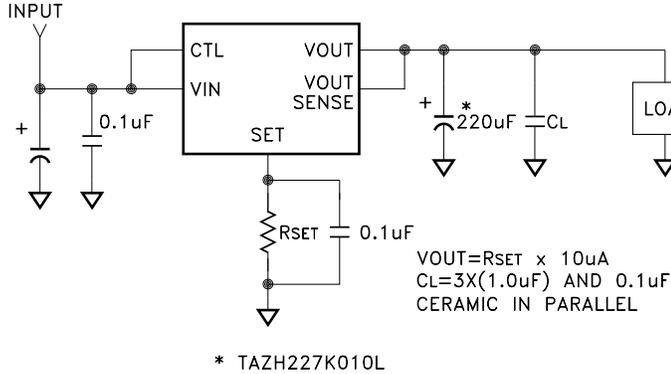

FIGURE 1
- ① Output is decoupled to ground using a 220µF tantalum low ESR capacitor in parallel with 3 pieces of 1.0µF and one 0.1µF ceramic capacitor unless otherwise specified. (See Figure 1)
- ② Guaranteed by design but not tested. Typical parameters are representative of actual device performance but are for reference only.
- ③ Industrial grade devices shall be tested to subgroup 1 unless otherwise specified.
- ④ Class V devices shall be 100% tested to subgroups 1, 2 and 3.
- ⑤ Subgroup 1 TA=TC=+25°C